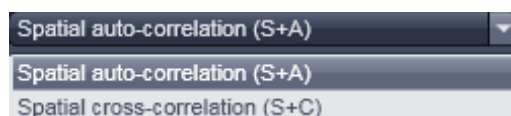

Fig. 543 Correlation drop down menu
- The correlation to be computed can be selected from the **Correlation** drop down menu (Fig. 543). For one channel recordings, only **Spatial auto-correlation (S+A)** is available, for a two channel recording in addition **Spatial cross-correlation (S+C)**.